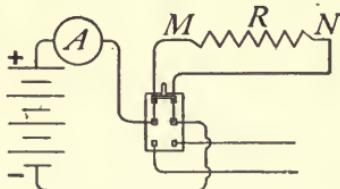

FIG. 268.
in charging can be obtained upon *discharging*. Therefore the *efficiency* of a good storage cell is about 75 per cent. Fig. 268 represents a storage battery connected to charg-
290. Energy and Power of a Storage Cell.—In a storage cell, the electrical energy of the charging current is transformed into *chemical* energy by the action of electrolysis. It is this chemical energy that is transformed into the energy of the electric current when the cell is discharged. The *capacity* of storage cells is rated in "ampere hours," a 40 ampere hour cell being capable of producing a current of 1 ampere for 40 hours, or 5 amperes for 8 hours, etc. The production and extensive use of electric currents have made necessary accurate methods for measuring the *energy* and *power* of these currents. To illustrate how this is accomplished, let us imagine an electric circuit as represented in Fig. 268. Here four storage cells in series have an E.M.F. of 8 volts and in accordance with Ohm's law produce a current of 2 amperes through a resistance in the circuit of 4 ohms. Now the work done or energy expended by the current in passing through the resistance between the points *M* and *N* depends upon three factors (1) the E.M.F. or *potential difference*; (2) the *current intensity* and (3) the *time*. The energy is measured by their product. That is, *electrical energy* = *potential difference* × *current intensity* × *time*. This represents the electrical energy in *joules*, or
In the circuit represented in Fig. 268 the energy expended between the points *M* and *N* in 1 minute (60 seconds) is $8 \times 2 \times 60 = 960$ joules.